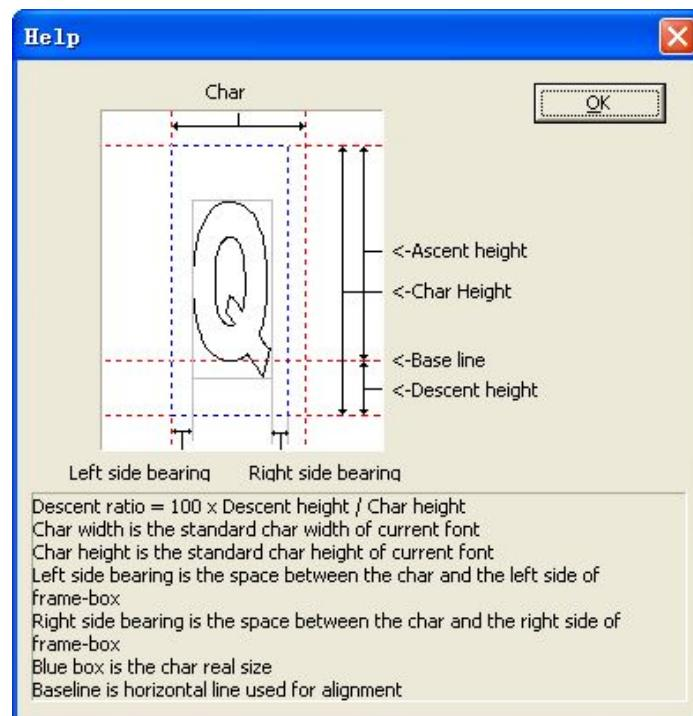

Figure 5-18 Help
Through Figure 5-18 we can see that, in addition to the width and height which stands for the
**Offset dist Y:** The Y-direction offset of the graph in “Preview”. The default value is 0. Increase it, graphics moves up; reduce it, graphics moves down. **Left-side bearing:** As the figure 5-18, namely the distance of the left frame of gray box and the left frame of blue box.
**Right-side bearing:** As the figure 5-18, namely the distance of the right frame of gray box and the right frame of blue box. In Figure 5-18, we can see "update font file" and "Char kerning" two functional buttons are disabled. Here we need to choose name of jsf font library, the functional
Please note: the route of system fonts is ezcad2\font, so you must create in the folder a new name of the file, otherwise the software will not fetch the file retrieval. Now the system will find a file named "EZCAD0521" font in route: ezcad2\font, if not found, the system will lead a dialogue to remind users whether establish the document or not. Click “ok” to establish EZCAD0521.jsf document, then shown a dialogue “Character Attributes” as figure 5-18, after amending the attributes, such as the height of double->character and single character, the width of double -> character and single character, descent height hatch etc (Normally defaulting) ->click ‘OK’, then the system have saved the document named "EZCAD0521, jsf" already.